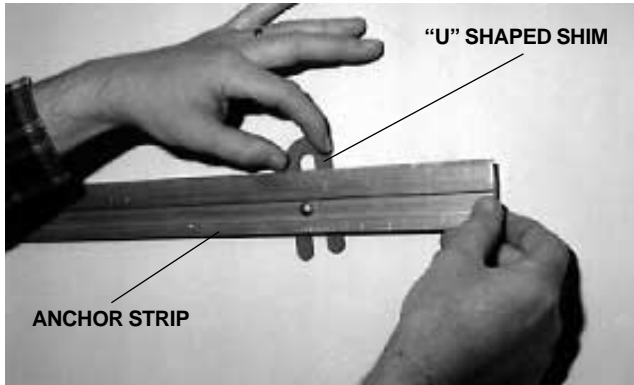

FIGURE 8
27. Shim the anchor strip as necessary with the “U” shaped shims provided (see Figure 8) to prevent the anchor clip from bending to fit an uneven wall when the fasteners are tightened.
- 43. Shim the anchor strip with the "U" shaped shims provided (see Figure 8 on page 4) as necessary to prevent the anchor clip from bending to fit an uneven wall when the fasteners are tightened.